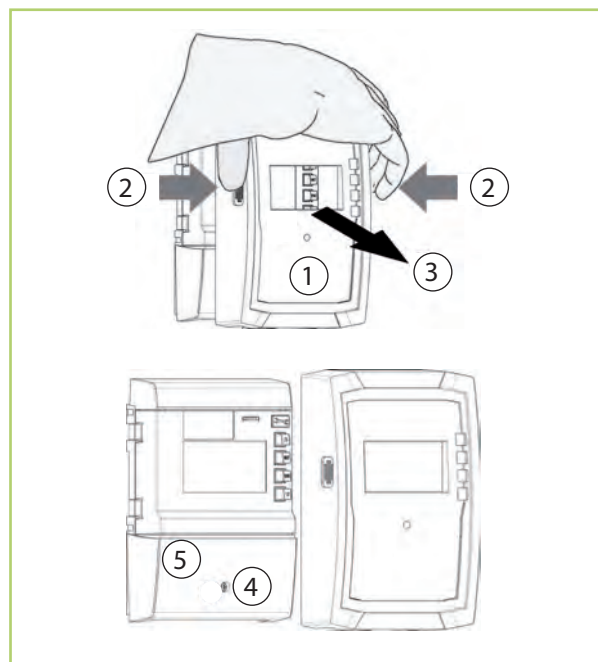

Fig. 27: Remove the front panel
- Grasp the front panel ① by the grip grooves on the side ② and pull it forwards ③ (Fig. 27).
- Loosen the screw ④ (Fig. 27).
- Remove the terminal cover ⑤.